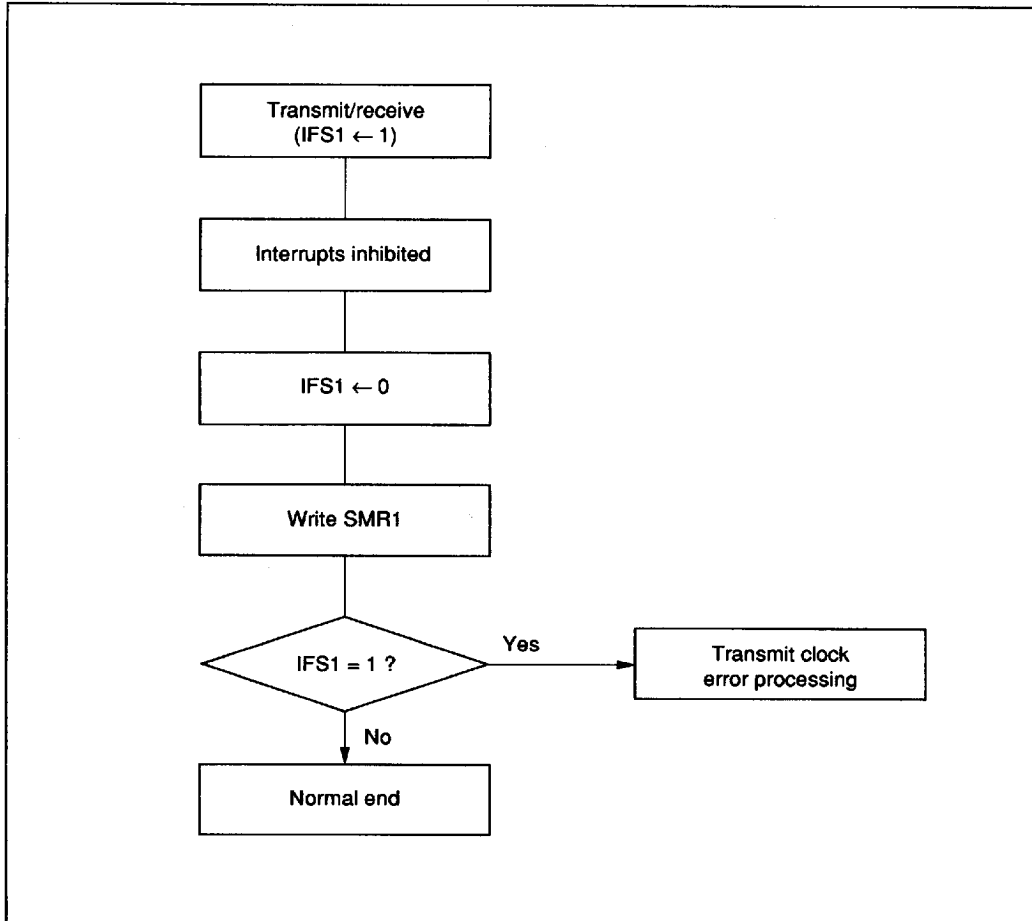

Figure 48 Transmit Clock Error Detection
**Transmit Clock Error Detection:** Serial interface 1 will malfunction if a spurious pulse caused by external noise conflicts with a normal transmit clock. Such errors can be detected as shown in figure 48.